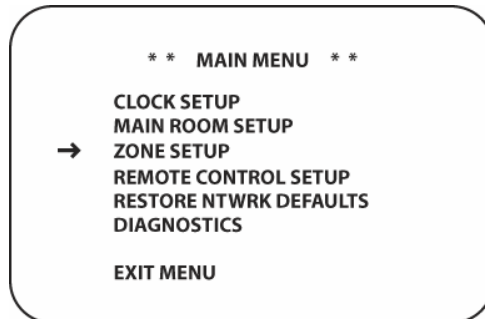

Figure 100 Main Menu
3. Press the **MENU Button [oval 44]** on the remote. The MAIN MENU will appear. (Figure 100)